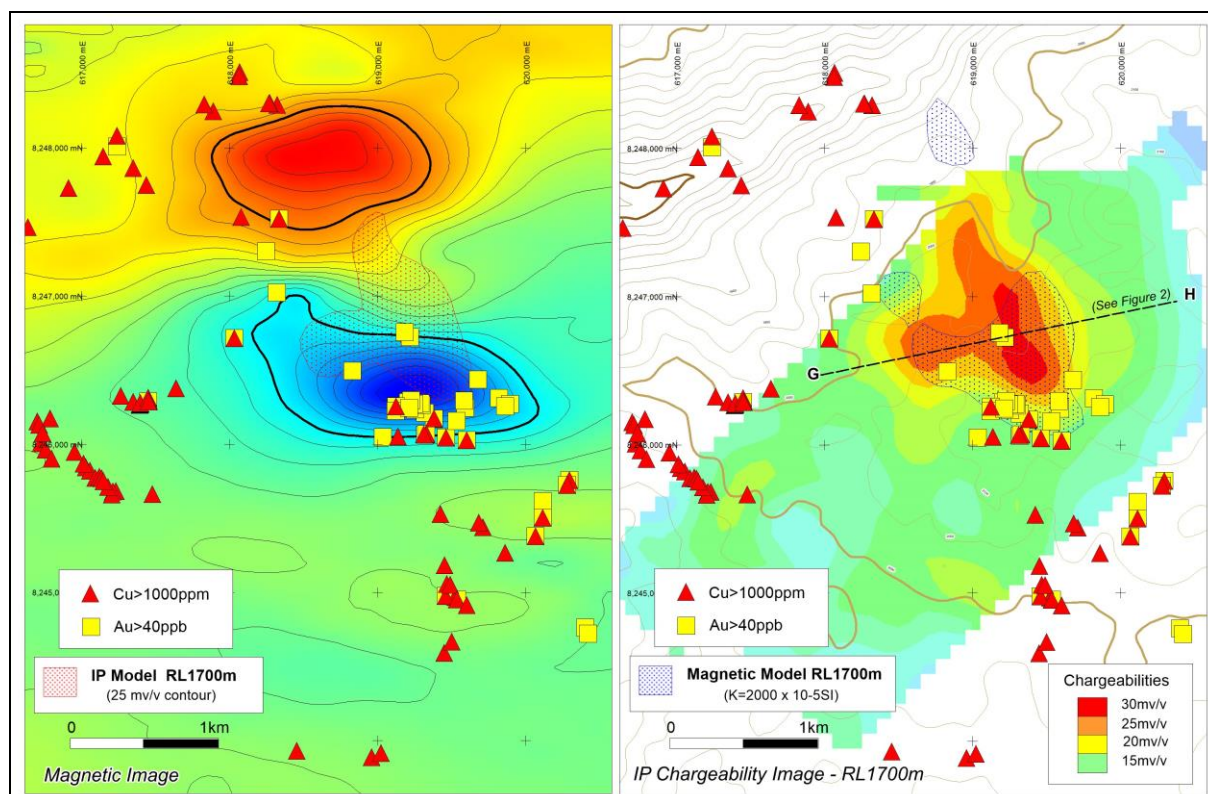

Figure 1: Cerro de Fierro IP/Magnetic Target and rock geochemistry
Induced Polarisation (IP) Surveys conducted over the project have located strong chargeability anomalies coincident with a magnetic anomaly that was being tested as a potential IOCG target. Earlier geological mapping and sampling completed by the Company in 2016 had located extensive copper mineralisation proximal to the magnetic target, with numerous copper values in excess of 1,000ppm Cu and many samples returning values in excess of 1% Cu (*Figure 1*).